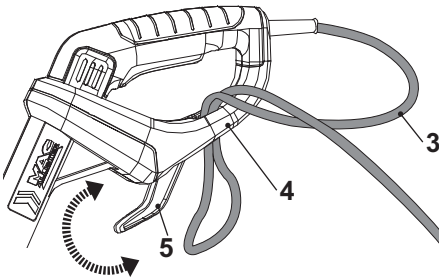

Fig. 4
1. Rotate the cord container (rotatable) (5) and make sure that the tip of cord container (rotatable) (5) is pointed forward.
2. Double the power cord (3) back, about 60 cm from the power guard and lead the loop through the hole of the rear safeguard (4). Pull it over the cord retainer (5) and gently tug on the power cord (3) to ensure that it is firmly secured (Figs. 4, 5).